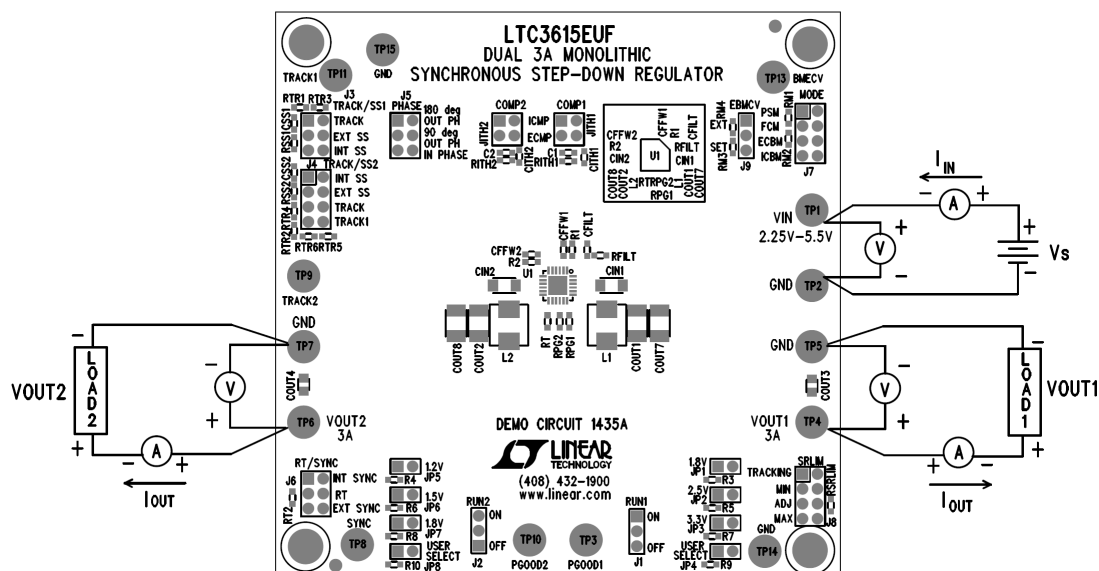

Figure 1. Proper Measurement Equipment Setup
The DC1435 is easy to set up to evaluate the performance of the LTC3615. For a proper measurement equipment configuration, set up the circuit according to the diagram in Fig. 1.
1. Connect the input power supply to the Vin and GND terminals. Connect the loads between the Vout and GND terminals. Refer to figure 1 for the proper measurement equipment setup.